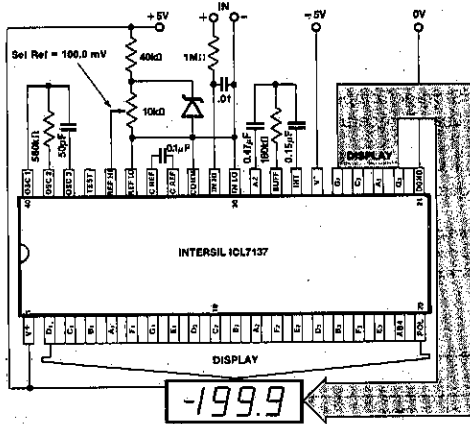

Figure 1. 7137 Clock Frequency 16kHz (1 readings/sec)
**Note 3:** Unless otherwise noted, specifications apply at TA = 25°C, fclock = 16kHz and are tested in the circuit of Figure 1.